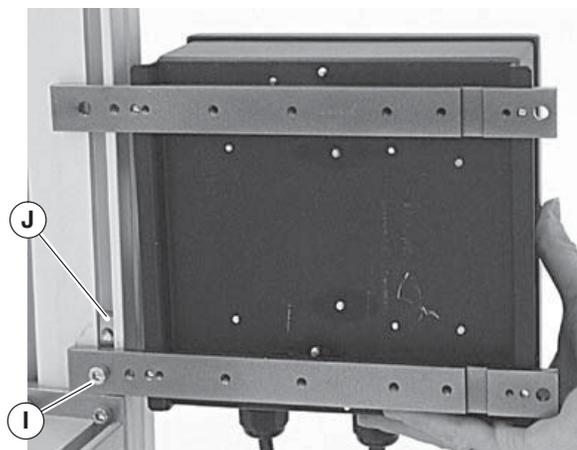

Figure 15
3. Temporarily tighten screw (I). Install second T-bar (Figure 15, item J) into T-slot.